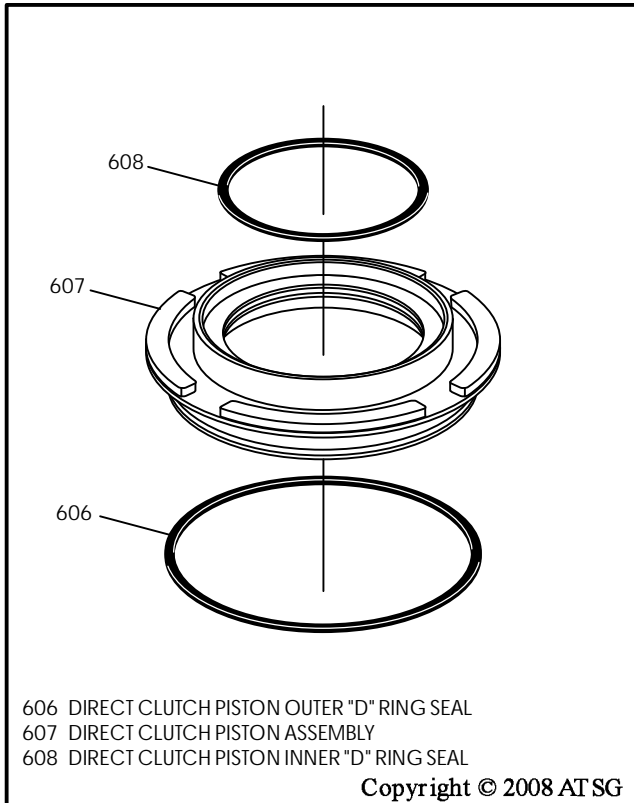

Figure 116
5. Install a new inner "D" ring seal into groove in piston, as shown in Figure 116.
6. Install a new outer "D" ring seal into groove in piston, as shown in Figure 116, and lube both seals with small amount of Trans-Jel®.